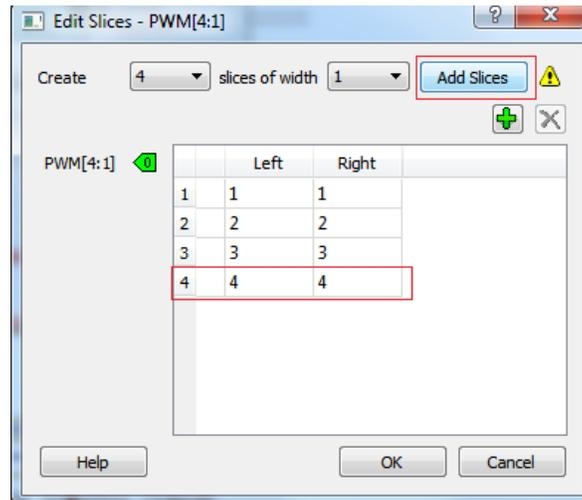

Figure 38 • Edit Slices of CorePWM
- Click Add Slices to add an extra PWM port as shown in Figure 38. Click OK.